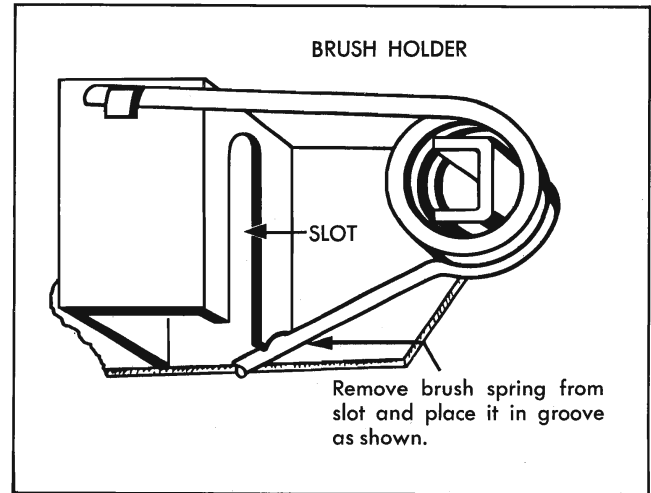

Fig. 11-101 Motor Brush Spring
2. Release brush spring pressure against brushes as shown in Fig. 11-101.